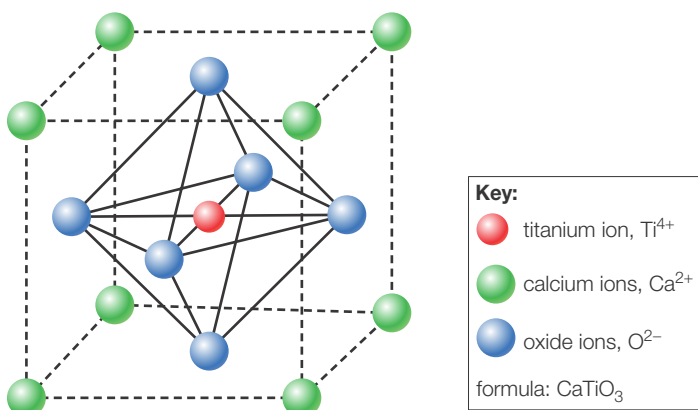

Figure 22.78 Unit cell of the perovskite structure
Perovskite (Figure 22.78) is a mineral with the formula CaTiO_3 . The calcium ions, Ca^{2+} , lie at the corners of a cube. The oxide ions, O^{2-} , lie on the faces of the cube, and the titanium(IV) ion, Ti^{4+} , lies at the centre of the cube. High-temperature type 2 cuprate superconductors have structures based on perovskite.
54 Confirm that in perovskite the stoichiometry is consistent with the structure shown in Figure 22.78.